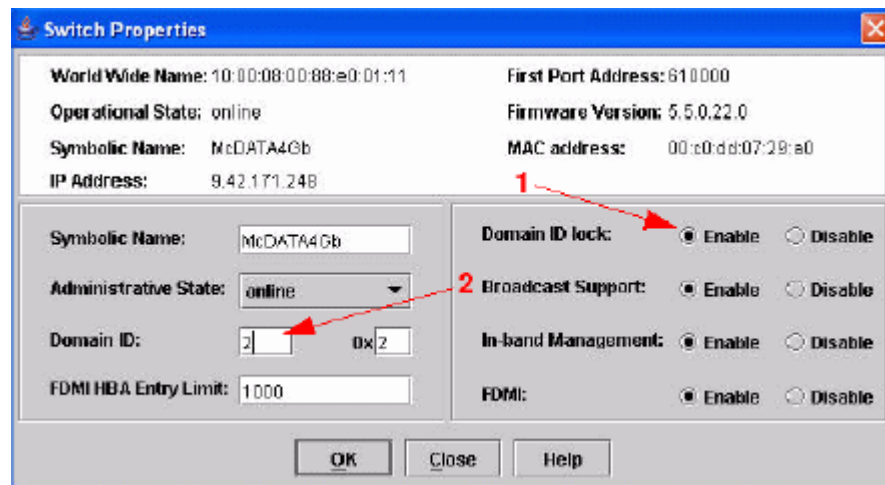

Figure 16:
- d. From the Switch Properties dialog (Figure 16), enter a symbolic name for your switch. Click the Enable radio button next to Domain ID lock (1). Enter a Unique Domain ID ranging from 1-31 (2). In this example, 2 has been selected for the DID. Click OK to continue.